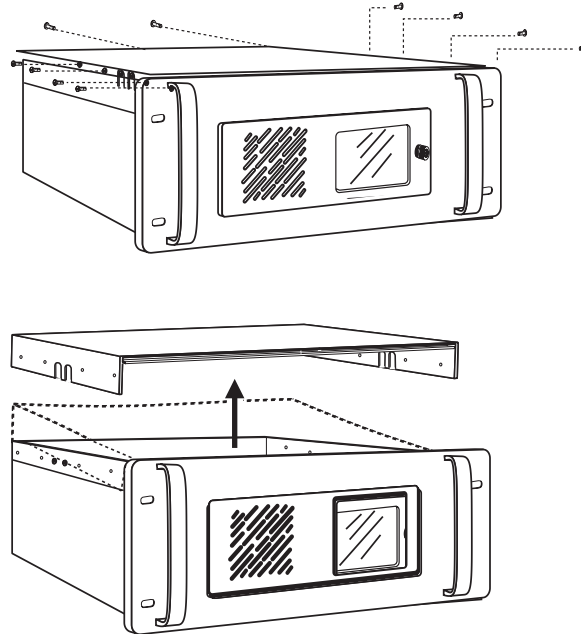
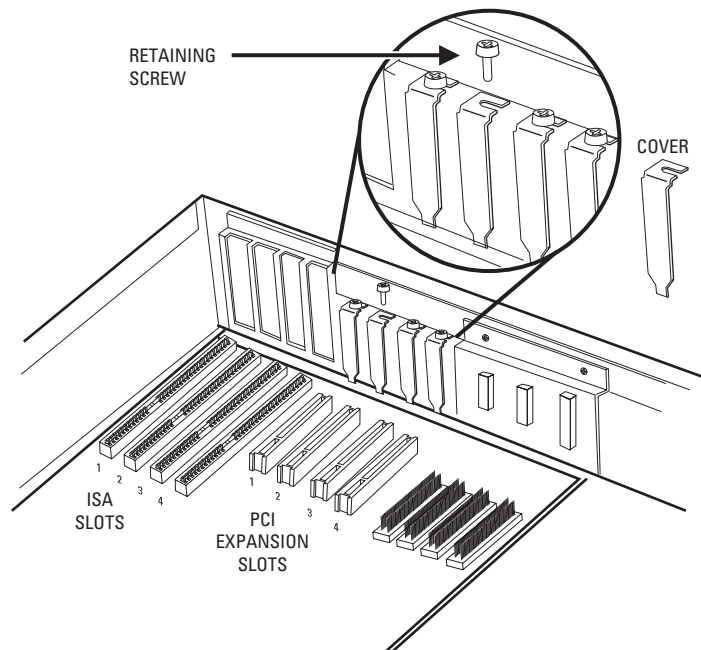

Figure 2. Removing the CC1 Top Cover
Figure 3. CC1 Internal Layout
2. Install the RP card into the CC1. Refer to Figure 2 and Figure 3 and do the following:
2. Install the RP cards into the CC1. Refer to Figure 2 and Figure 3 and do the following:
2. Remove the top cover mounting screws (refer to Figure 2).
3. From the rear, tilt the top cover up at a slight angle, and then pull backwards away from the front edge to remove the cover from the CC1 chassis (refer to Figure 2).
- c. Remove the Sercom card from ISA slot 4 by gently pulling up (refer to Figure 3). This card will not be used and should be stored in an ESD-safe container.
- c. Remove the Sercom card from ISA slot 4 by gently pulling up (refer to Figure 3).